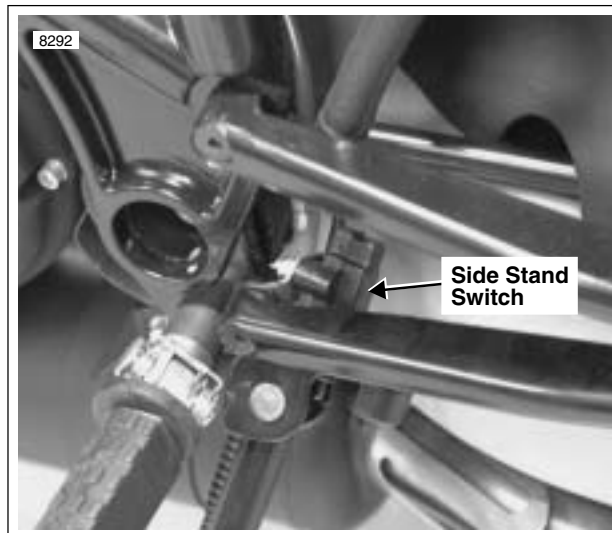

Figure 4-29. Side Stand Switch
- By retracting the side stand and grounding the relay through the side stand switch. See Figure 4-29.